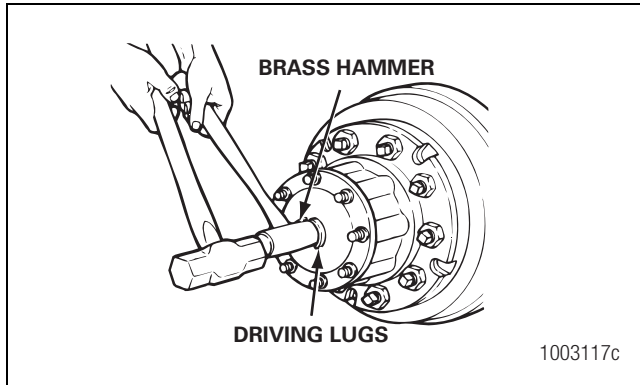

Figure 4.12
1. Hold a 1.5-inch (38.1 mm) diameter brass drift against the center of the axle shaft, inside the round driving lugs. A 1.5-inch (38.1 mm) diameter brass hammer can be used for a drift. Figure 4.12.